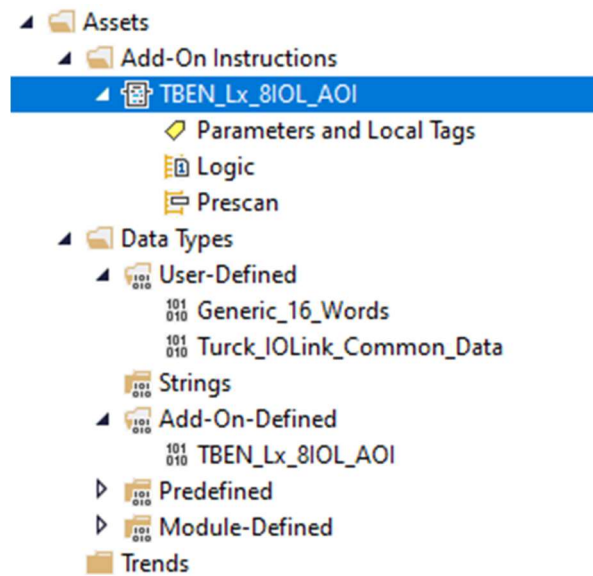

Figure 2.4 – Asset section of a project containing the TBEN-Lx-8IOL AOI
2. Added AOI's should resemble the asset section shown in figure 2.4